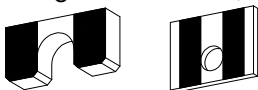

Figure A3: Polypropylene tape application.
- **3/8" U-Shaped Spacers and Offset Rectangle Washers:** Apply tape to washers as needed when they are mounted against the bed, see Figure A3.